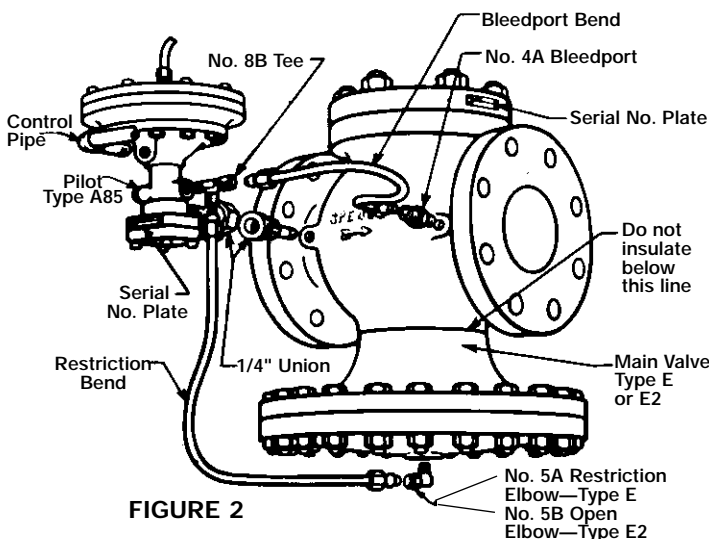

FIGURE 2
**NOTE: Bleed orifice in this fitting is vital to operation of regulator.** Screw 8B tee into 1/8" pipe tap in pilot. Select tap facing downstream. Screw 5A elbow containing restriction orifice into 1/8" pipe tap on underside of main valve diaphragm chamber. If initial pressure or pressure drop is less than 15 psi, a 5B open elbow without orifice is used. Connect tubing bends as illustrated in Figure 2.